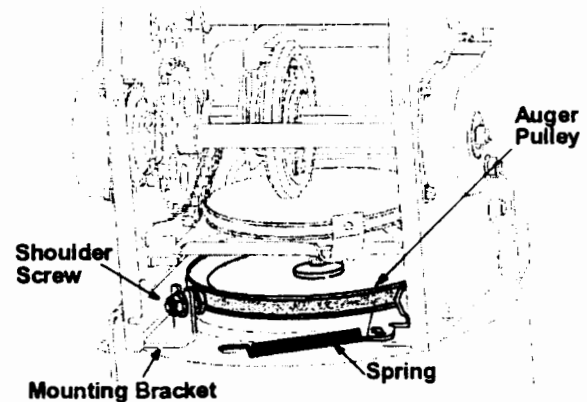

Figure 19
4. Half turn shoulder screw and slide it out of the mounting bracket. See Figure 19.
5. Unhook spring to release tension on the auger belt. Remove old belt and replace with new belt installing it on the groove. See Figure 19.
6. Wrap auger belt around the auger pulley. See Figure 19.